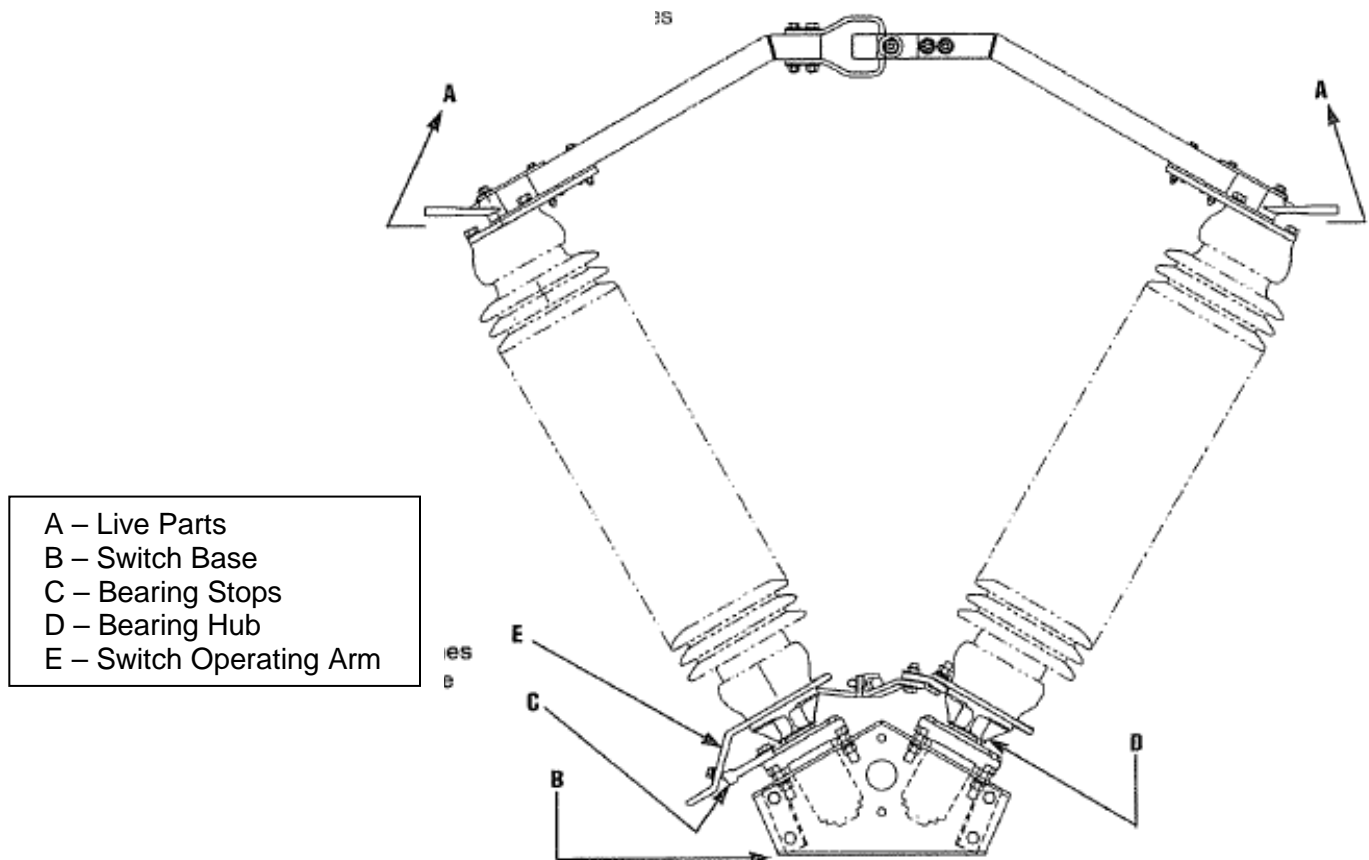

Figure 1: Typical EC-1V Switch Pole Assembled & Common Terminology
6. **Using main sling attachment to the switch base only** and auxiliary sling attachment to keep the switch upright, mount the switches on the structure as shown on the plan view of the operating mechanism drawing. Be sure to orient each pole with the switch operating arm in the proper position. When lifting, positively lock the switch closed. This can be done by using clamps, wire, or straps to keep the switch operating arm ("E" on **Figure 1**) hard against the bearing stop.